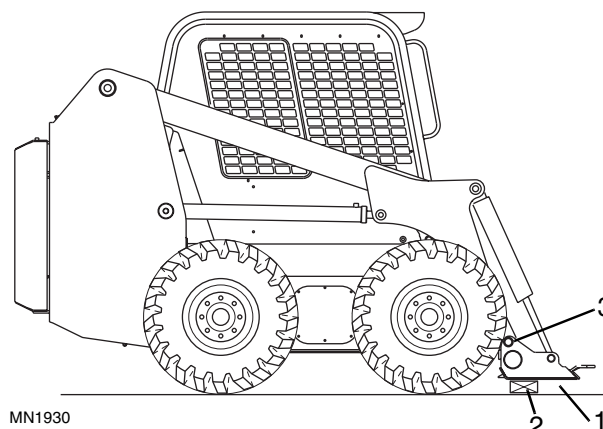

Figure 9-9 Quick Attach Frame Installation
1. Position the quick attach frame (Fig. 9-9, 1) on blocking (2) in front of the loader, and align both loader arm pivot pin holes with the corresponding holes (3) in the frame.